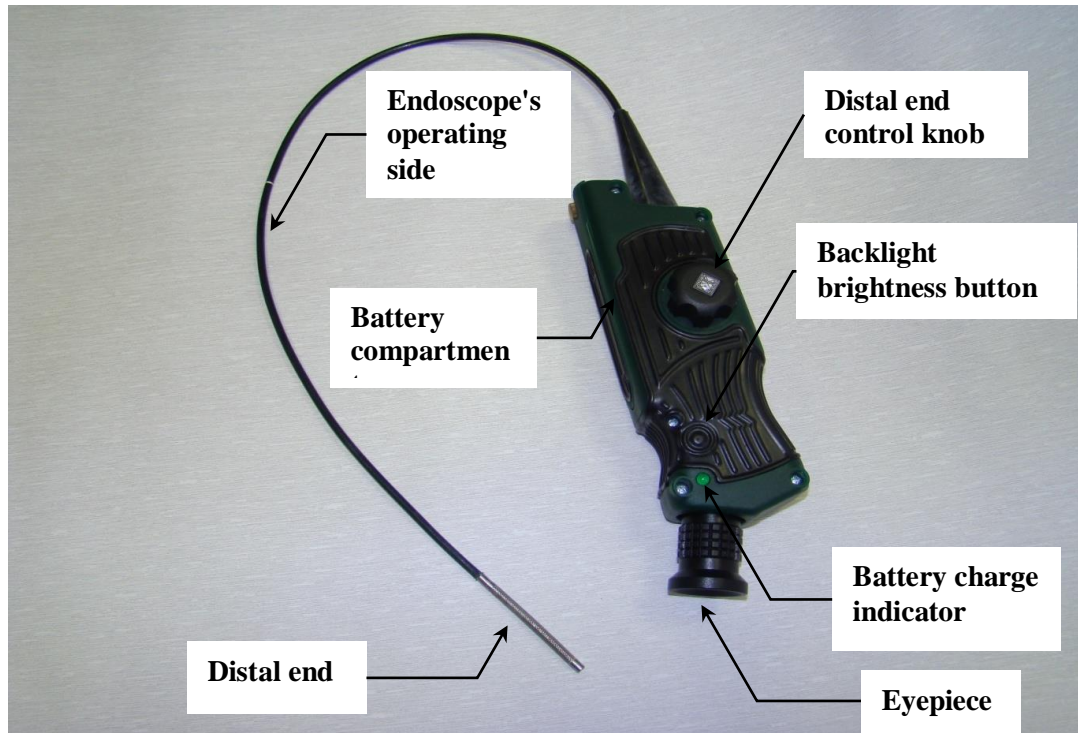

Figure 2
1.4.1 The main components of the device and the location of the controls are shown in Figure 2